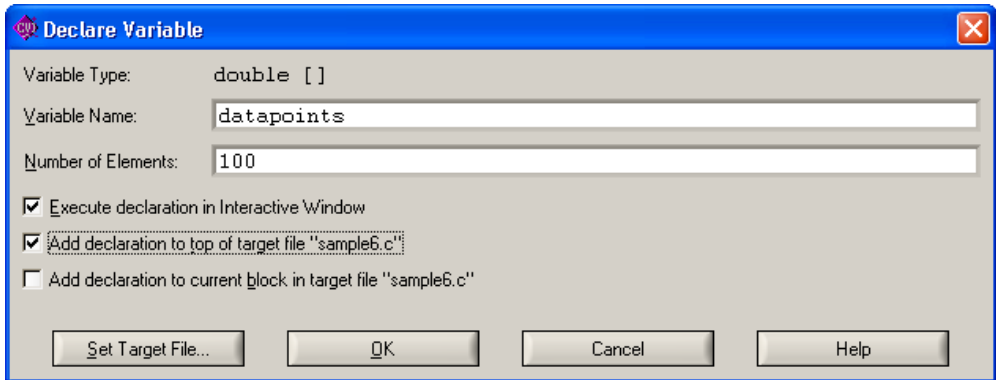

Figure 8-3. Declare Variable Dialog Box
4. Select **Code»Declare Variable**. In the **Declare Variable** dialog box, enter 100 as the **Number of Elements**. Enable the **Add declaration to top of target file "sample6.c"** option. Confirm that your **Declare Variable** dialog box matches the one shown in Figure 8-3.